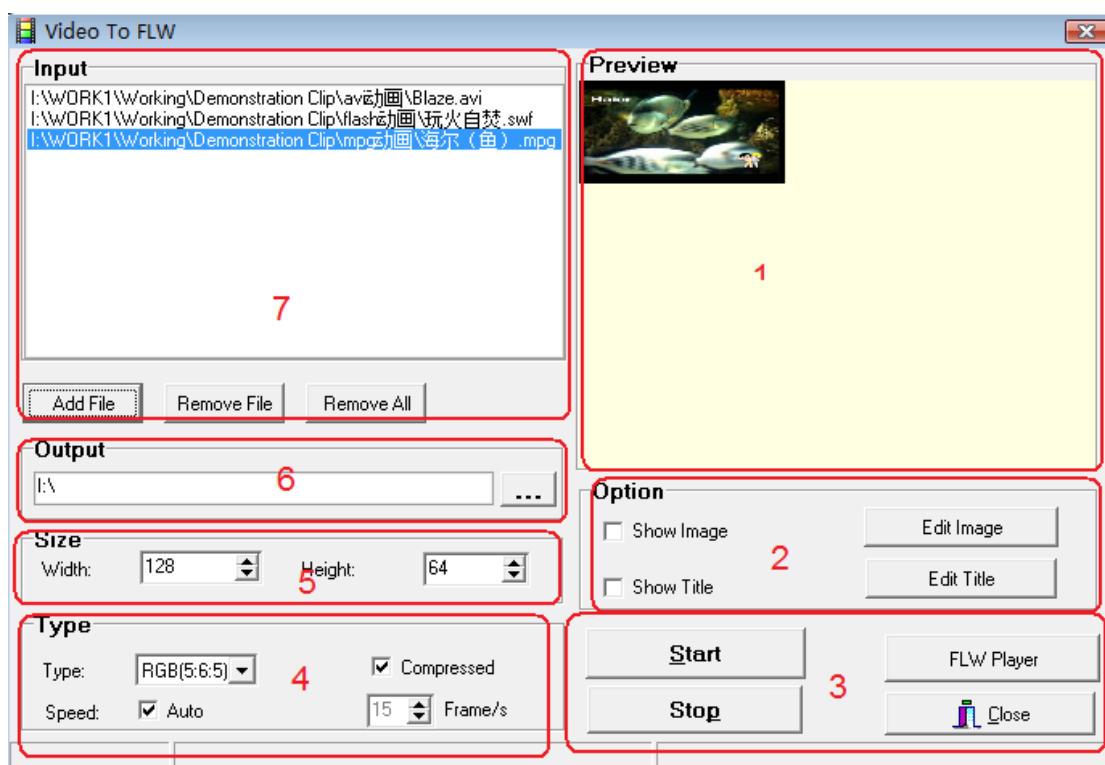

Figure 5.39 Video to FLW conversion interface
The Figure 5.39 shows an interface of a video file converted into the FLW mode. ① is the animation file preview window; ② is the modification or setting window; ③ is the animation file conversion and simulator display window; ④ is the animation file conversion ratio setting window; ⑤ is the animation size setting window; ⑥ is the animation file output window; ⑦ is the animation addition window. Functions and methods of use are explained as follow.